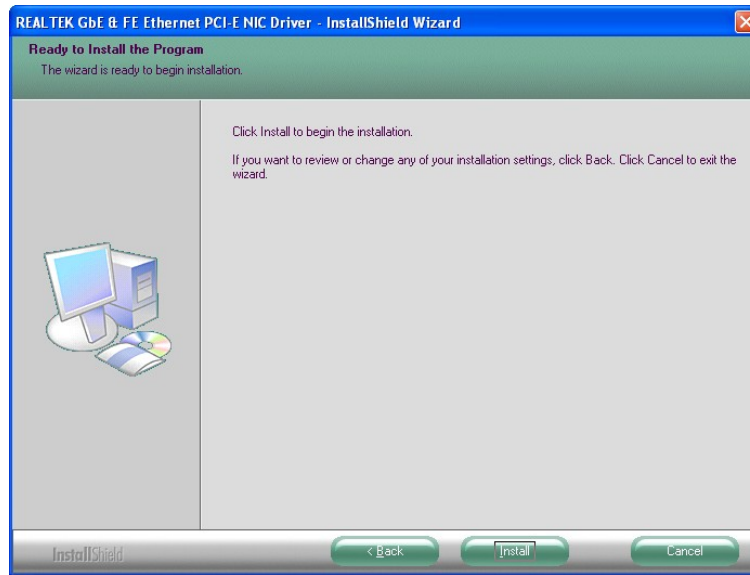

Figure 6-14: LAN Driver Installation
Step 6: The **Ready to Install the Program** screen in **Figure 6-14** appears.